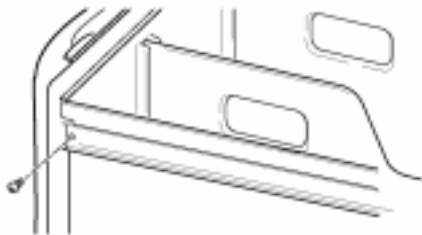

Fig. 1-8
11. Pull both drawer slides out and reassemble the drawer to the drawer slides with the two (2) Phillips head screws. *(Fig. 1-8)* Use of the two (2) dividers is optional. Close the drawer.